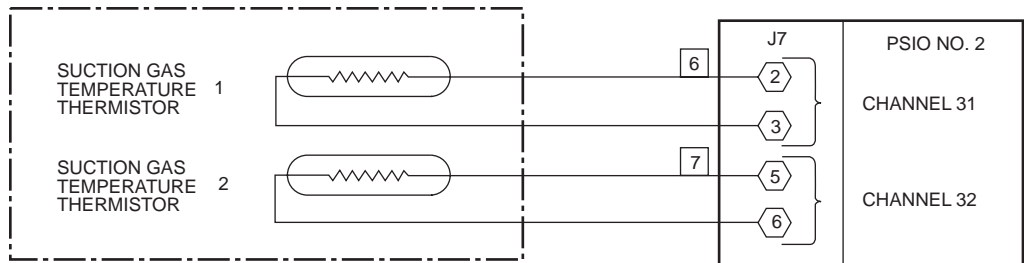

Fig. 27 — Transducer/Thermistor
- transducer/thermistor (Fig. 27)